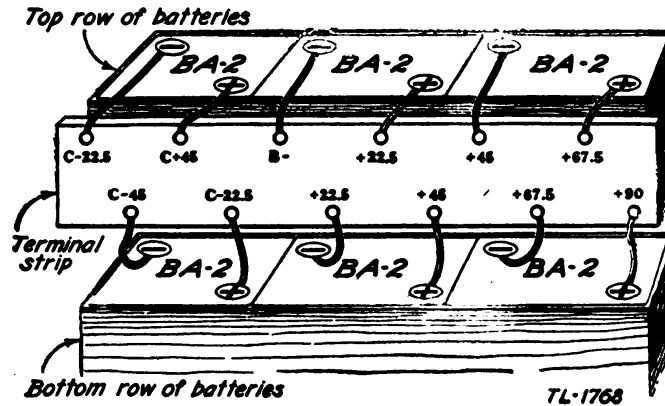

FIGURE 11.—Box BX-12, terminal strip-battery, BA-2 connections.
corners. The box contains compartments for the batteries and spare tubes. The terminal strip (fig. 11) provides individual binding posts for the leads of all six batteries BA-2. The four batteries BA-23 and the one battery BA-27 are properly terminated by the use of interconnecting wires which are connected to the four sockets on the hinged front. The capacitor CA-177-A, also mounted on the interior of the hinged front, is a bypass capacitor across the receiver bias battery.
(1) Face the front of the box and open the hinged cover and front. *Do not lose the metal space collar on each of the two thumb-screws.*
(2) Place three batteries BA-2 in the right compartment with their red leads nearest the terminal strip and connect them as indicated in figure 11, bringing the leads *under* the terminal strip.
(3) Place three more batteries BA-2 on top of the first three with their red leads also nearest the terminal strip, and connect them as indicated in figure 11, bringing the leads *over* the terminal strip.